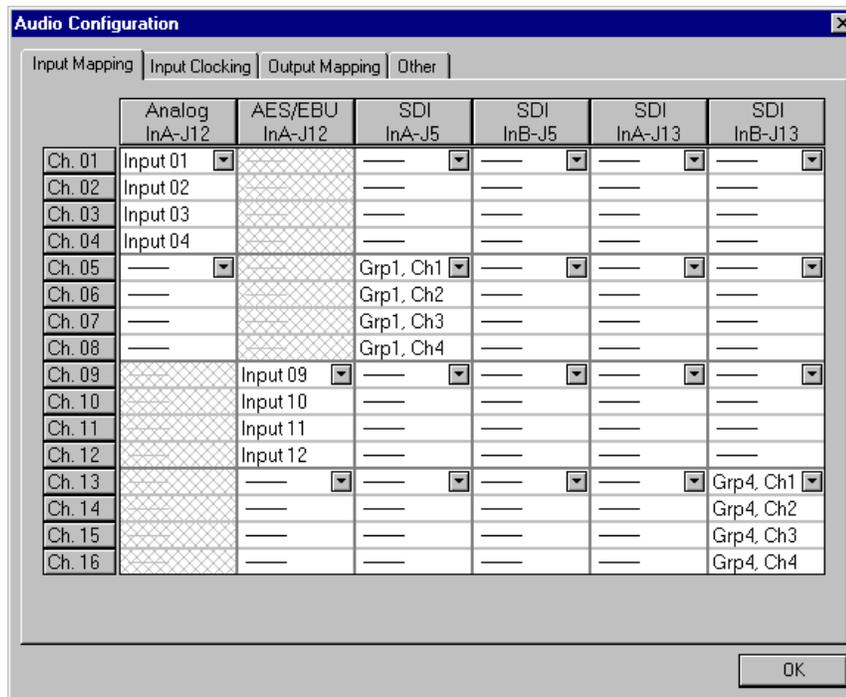
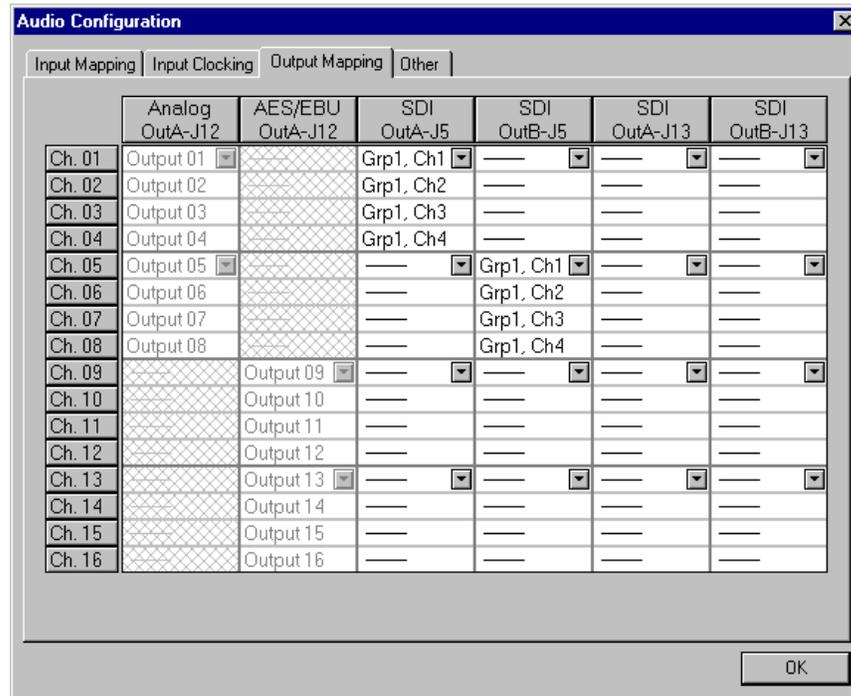

Figure 47. Audio Configuration dialog box, Input Mapping tab
Figure 48. Audio Configuration dialog box, Output Mapping tab
The Audio Configuration dialog box shown in Figure 47 allows you to configure input and output channels, input clocking, audio quality and monitor channels.
The Input Mapping tab is used for mapping input sources to Profile channels, while the Output Mapping tab is used for mapping Profile channels to output destinations. For example, you can map Profile Audio Chassis (PAC) input sources and serial digital audio input sources. Figure 47 and Figure 48 illustrate a sample configuration: a Profile unit with an audio signal processing board, a PAC 208 chassis (with A/D and D/A converters and connectors for eight channels), and two serial digital cards providing eight analog audio channels, eight digital audio channels, and four video channels with 16 embedded audio channels each.
The columns represent the sources to the sixteen channels on the input side and the destinations from the sixteen channels on the output side. The examples in Figure 47 and Figure 48 illustrate the system with a PAC 208 chassis allowing the selection of analog channels 1–8 and digital channels 9–16. A PAC 216 chassis, however, provides sixteen analog inputs and outputs or sixteen digital inputs and outputs. For the PAC 208, rows 9 through 16 of the analog channel column, and rows 1 through 8 of the AES/EBU channel column, are cross-hatched to indicate that these channels are not selectable. In Figure 48, in the column labeled AES/EBU, rows 9–16 appear dimmed, indicating that this audio type is always mapped and cannot be unmapped. Attempting to remap this section results in an error message.
The number of columns in the mapping grid depends on the number of possible input or output audio types that may be mapped to or from the disk recorder channels. The grid is used for selecting which of the possible input or output audio sources and destinations to map to the channels. Audio channels are mapped in groups of four channels only, and the four audio channels are always mapped to consecutive disk channels. For example, analog channels 1–4 (Input 01–Input 04) in the first column of Figure 47 are mapped to the first four disk recorder channels (Ch. 01–Ch. 04), while digital channels 9–12 (Input 09–Input 12) in Figure 48 are mapped to another four disk recorder channels (Ch. 09–Ch. 12).
1. Choose **Options | Audio Configuration**. The Audio Configuration dialog box appears (Figure 47).
1. Choose **Options | Audio Configuration**. The Audio Configuration dialog box appears (Figure 48).